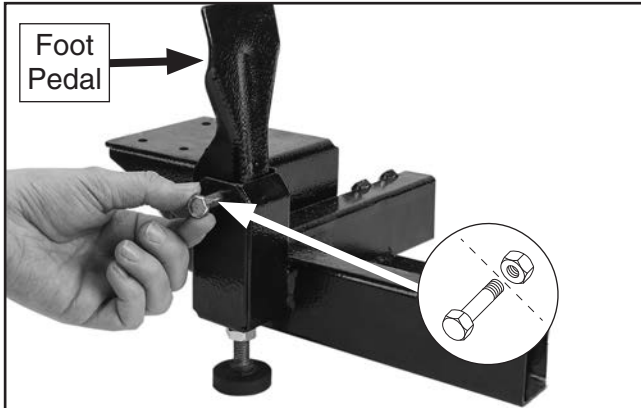

Figure 11. Attaching foot pedals.
- Attach each foot pedal to corner bracket with (1) M8-1.25 x 50 shoulder bolt and (1) M8-1.25 lock nut (see **Figure 11**).